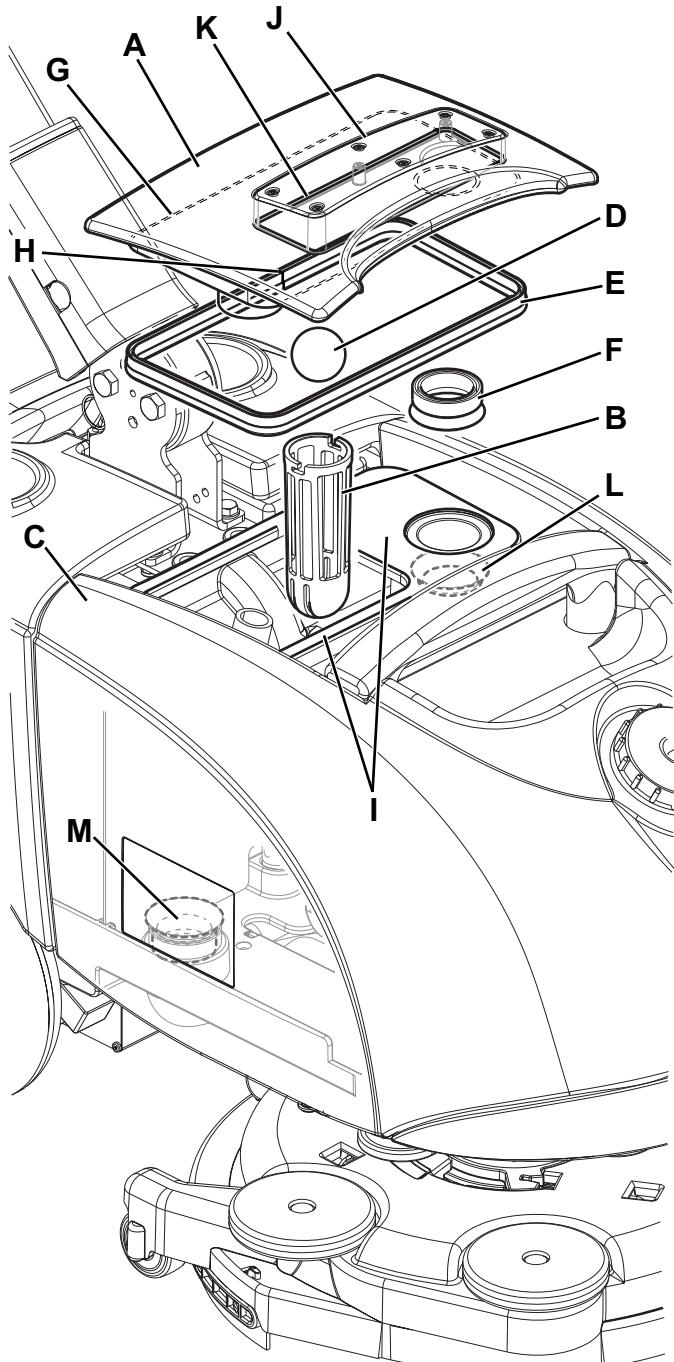

Figure 7
2. Check that the function selection knob (31) is turned to "0" and disconnect the battery connector (7).
3. Remove the cover (A, Fig. 7), then clean and wash the cover and the vacuum grid (B) with clean water.
4. Drain the water from the tanks (C) and clean them.
5. If necessary, disassemble the grid (B) and remove the float (D), than clean with care and reinstall.
6. Check the cover gaskets (E) and (F) for integrity.